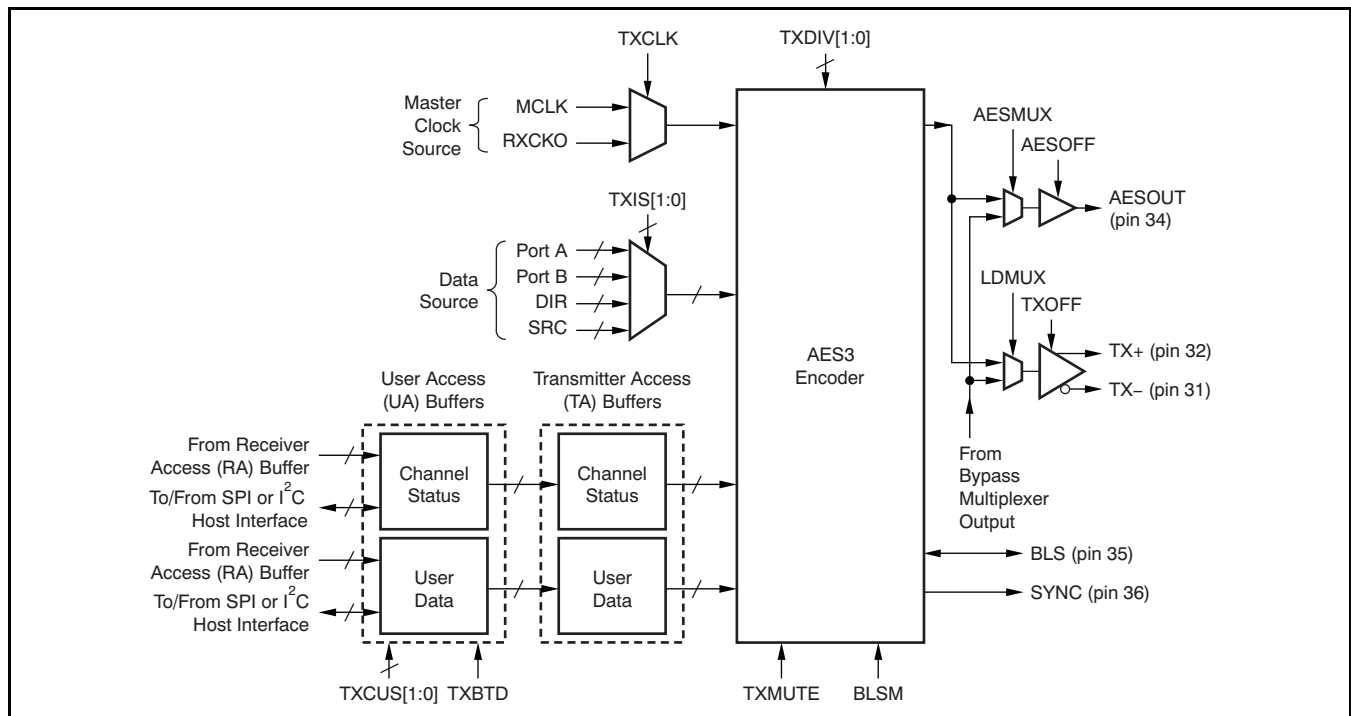
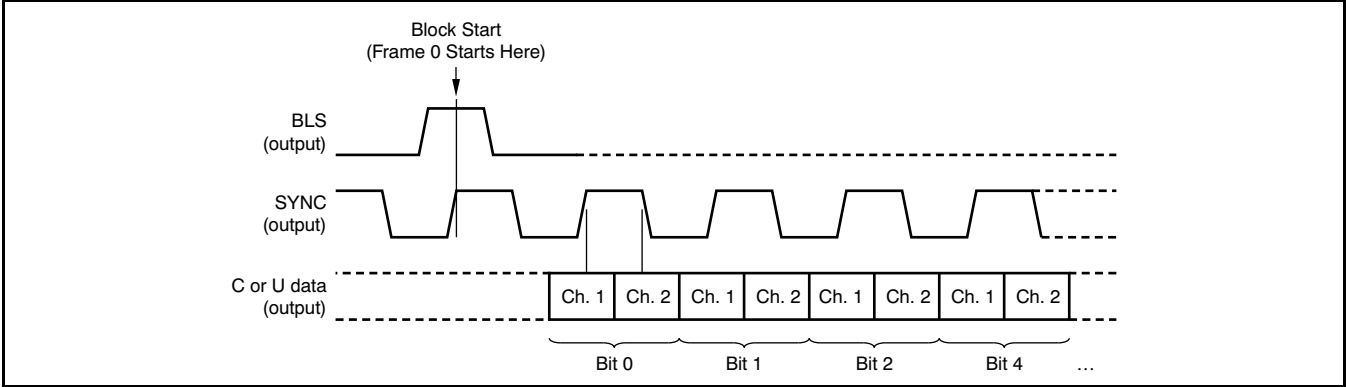

Figure 65. Digital Interface Transmitter (DIT) Functional Block Diagram
Figure 71. DIR Channel Status and User Data Serial Output Format Via the GPO Pins
The DIT encodes a given two-channel or data-reduced audio input stream into an AES3-encoded output stream. In addition to the encoding function, the DIT includes differential line driver and CMOS buffered output functions. The line driver is suitable for driving balanced or unbalanced line interfaces, while the CMOS buffered output is designed to drive external logic or line drivers, as well as optical transmitter modules. Figure 65 illustrates the functional block diagram for the DIT.
The AES3 encoder output is connected to the output line driver and CMOS buffer source multiplexers. As shown in Figure 65, the source multiplexers allow the line driver or buffer to be driven by the AES3-encoded data from the DIT, or by the bypass multiplexer, which is associated with the outputs of the four differential input line receivers preceding the DIR core. The bypass multiplexer allows for one of the four line receiver outputs to be routed to the line driver or buffer output, thereby providing a bypass mode of operation. Both the line driver and CMOS output buffer include output disables, set by the TXOFF and AESOFF bits in control register 0x08. When the outputs are disabled, they are forced to a low logic state.
The decoded audio data, along with the internally-generated sync clocks, may be routed to other function blocks, including Port A, Port B, the SRC, and/or the DIT. The decoded channel status and user data is buffered in the corresponding Receiver Access (RA) data buffers, then transferred to the corresponding User Access (UA) data buffers, where it may be read back through either the SPI or I²C serial host interface. The contents of the RA buffers may also be transferred to the DIT UA data buffers; see Figure 65. The channel status and user data bits may also be output serially through the general-purpose output pins, GPO[4:1]. Figure 71 illustrates the output format for the GPO pins when used for this purpose, along with the DIR block start (BLS) and frame synchronization (SYNC) clocks. The rising edges of the DIR SYNC clock output are aligned with the start of each frame for the received AES3 data.